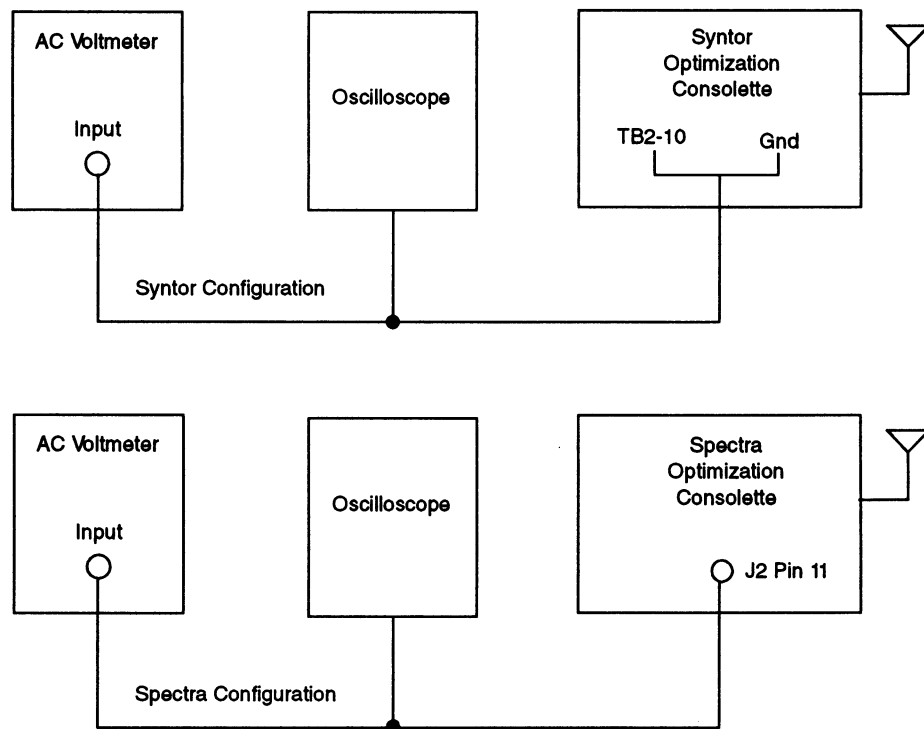

Figure 11. Clear System Amplitude Optimization Test Equipment Set Up
Step 6. Set up your equipment as shown in Figure 11. Use the oscilloscope to monitor the waveform.
- Step 11. Refer to Figure 11 to identify and configure the phase equalization test setup for your system configuration.